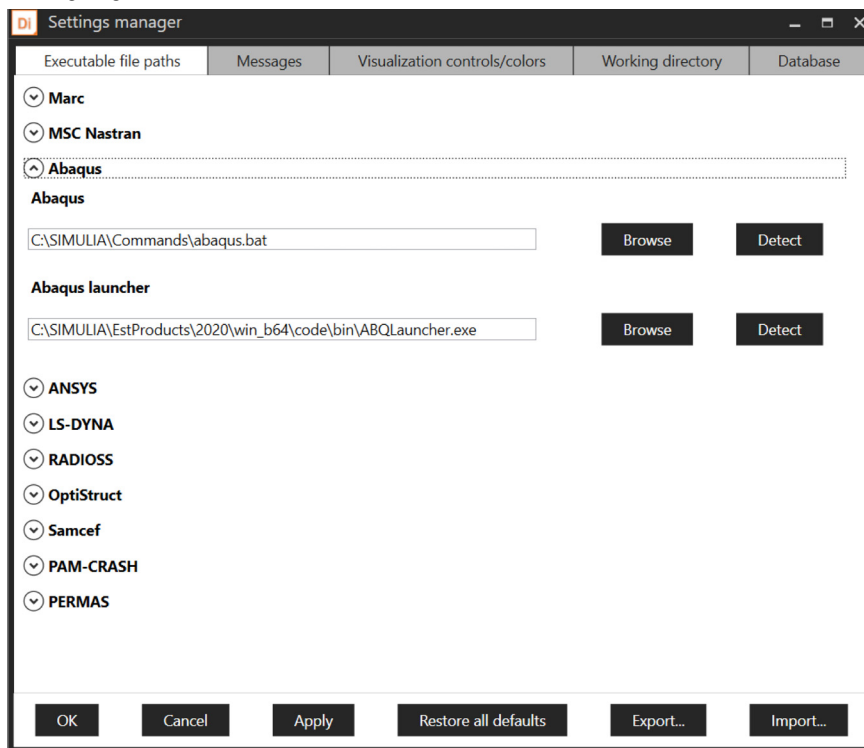

Figure 6-6 Setting Abaqus-CAE path for encryption of material cards.
- If initial (T)EP material model is encrypted, material card will also be encrypted. To that goal, it is needed to have a local Abaqus installation. This local Abaqus installation must be defined in Digimat- RP settings in **Abaqus Launcher** section (see Figure 6-6). This setting is automatically created at Digimat installation when defining Abaqus-CAE installation directory.